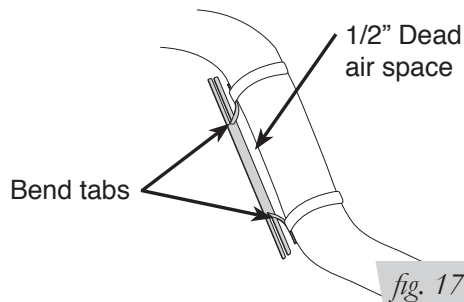

fig. 17
1. Bend tabs to provide a 1/2" dead air space between exhaust pipe and heat shield (Fig. 17).